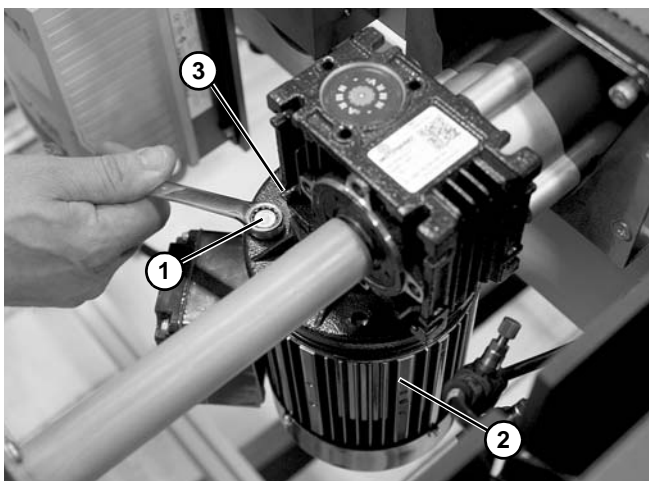

Figure 27
1. Remove hex flange screws (Figure 27, item 1) connecting the motor (Figure 27, item 2) to the gear reducer (Figure 27, item 3).